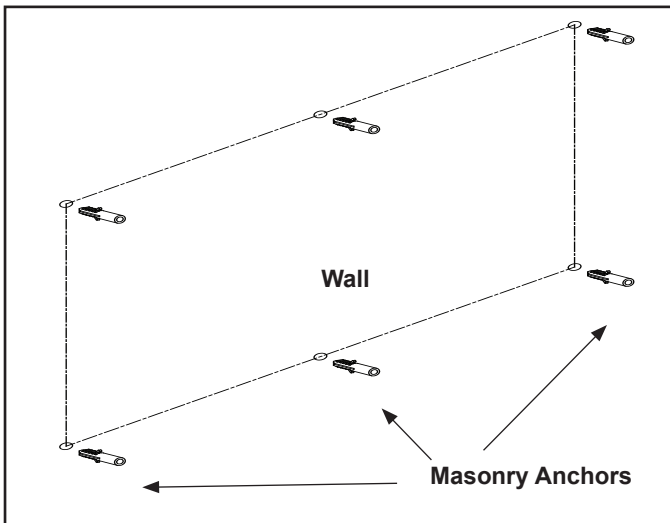

Figure 6 Masonry Anchor Placement
**NOTICE:** Minimum six (6) screws and anchors are required for MASONRY wall mounting.
- In the marked locations, drill 5/16 in. diameter x 2 in. deep holes. See Figure 6.